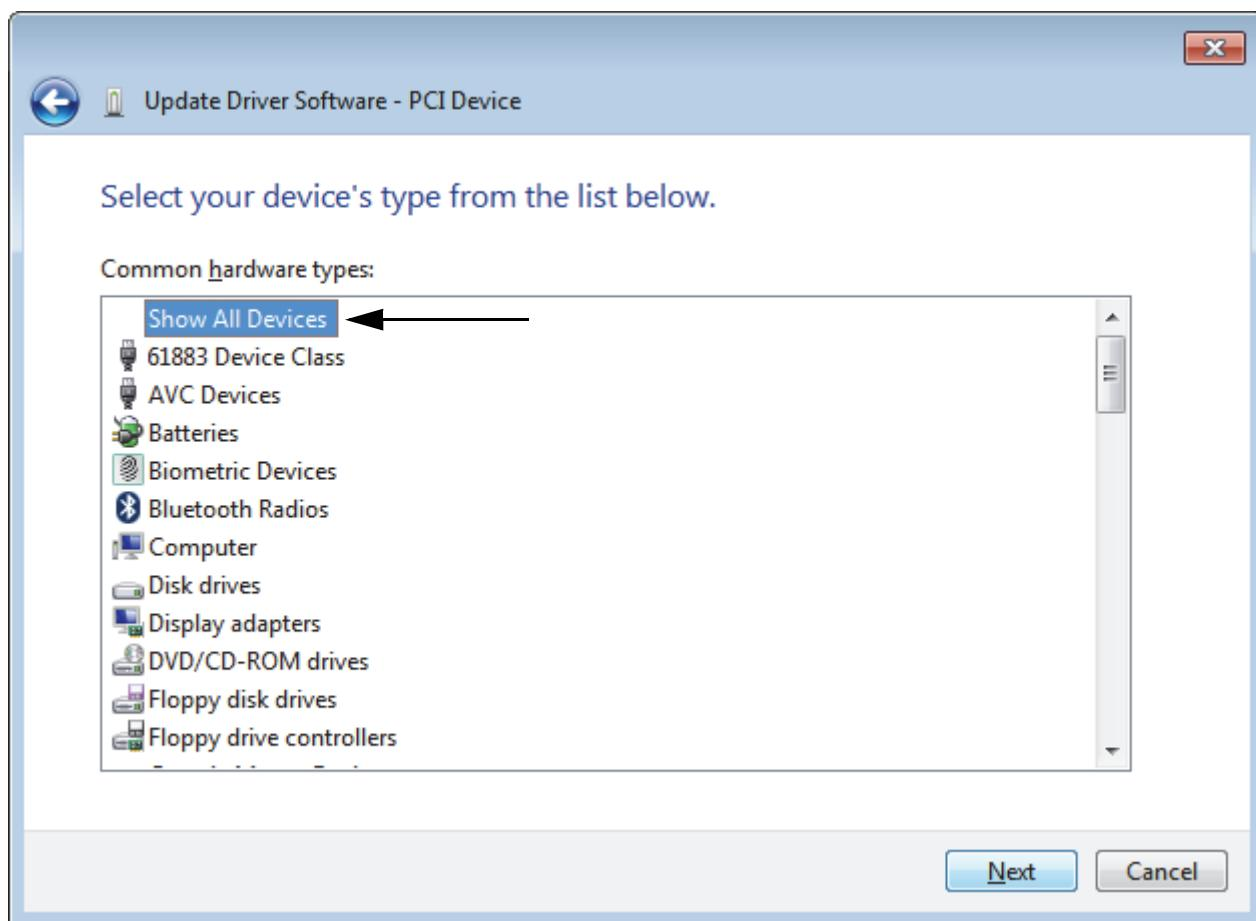

Figure 5-22. Selecting Show All Devices
7. Select **Show All Devices** then select **Next** as shown in Figure 5-22.